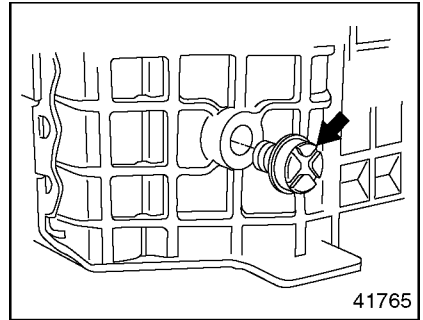

Figure 50 Coolant Drain Plug
3. Drain the coolant from the engine. See Figure 50. Coolant system capacity is listed in Table 30.